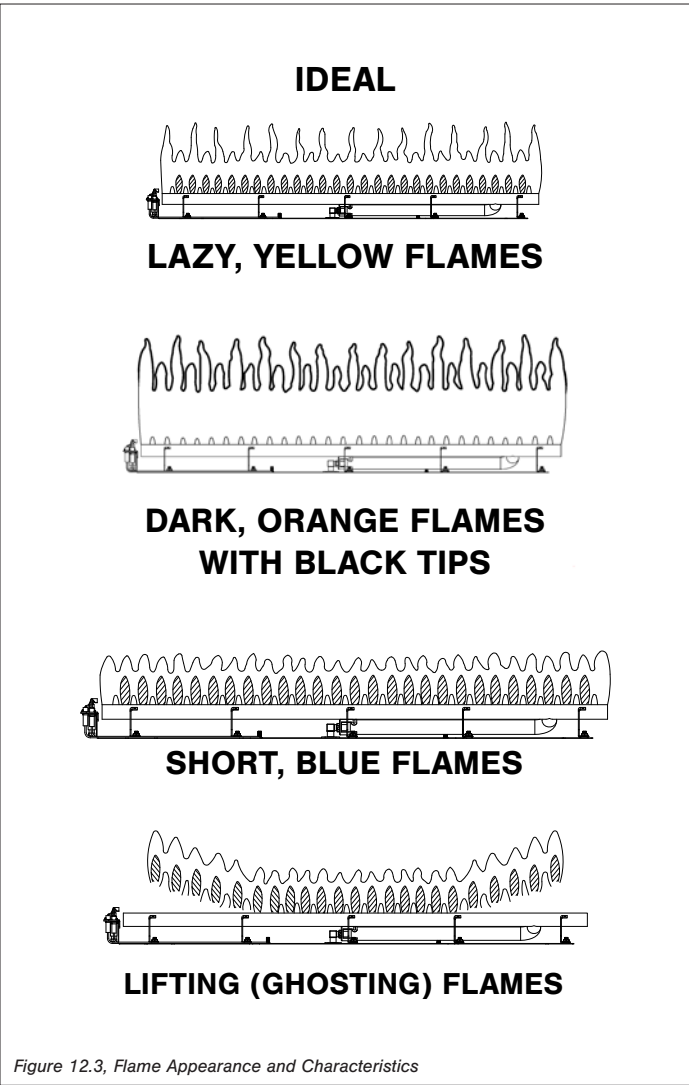

Figure 12.3, Flame Appearance and Characteristics
- Visually check pilot light and burner flame pattern when in operation. Flames should be steady, not lifting or floating. Refer to Figure 12.3, Flame Appearance and Characteristics on page 43